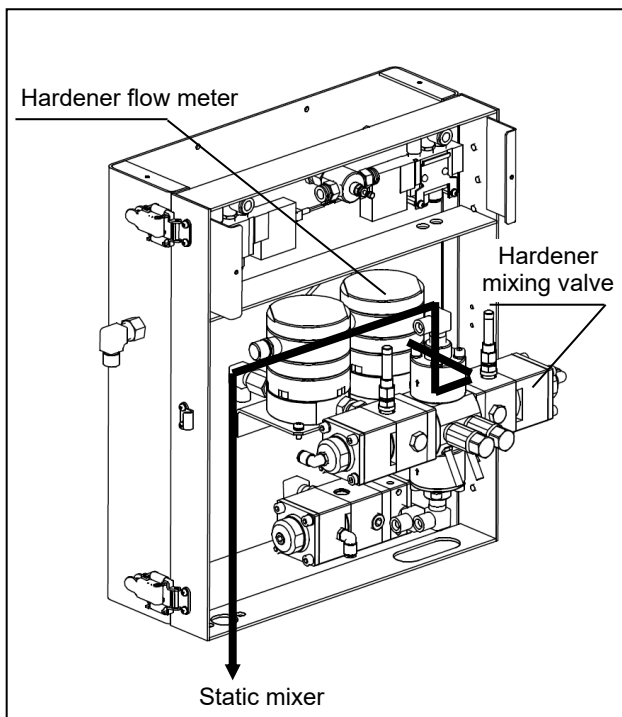
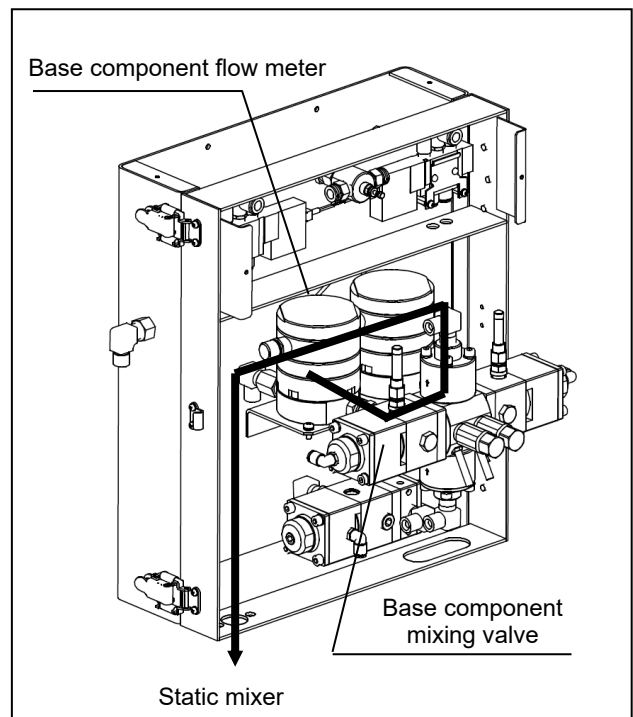

Figure 2.2.2
Figure 2.2.3
- ① When the READY switch is "ON" on the main screen, the mixture and color change controls are available. With the READY switch "OFF," the mixed paint is not sprayed even if the spray gun trigger is pulled.
- ② As the spray gun trigger is pulled, the ACW controller activates the hardener mixing solenoid valve to start feeding the hardener.
- ③ The hardener is fed through the flow meter to the mixing hose (see Figure 2.2.2).
- ④ The ACW controller controls the mixing valve according to the signals sent from the flow meter to obtain the calculated target flow rate and accurately meters the hardener fed into the mixing hose.
- ⑤ After feeding of the hardener is completed, the base component mixing valve is activated to feed the base component in the similar manner (see Figure 2.2.3).
- ⑥ Those steps are repeated to alternately feed the base component and hardener into the mixing hose.
- ⑦ The primary mixture prepared in the mixing hose is fed into the static mixer where it is thoroughly mixed and then sent into the spray gun.
- ⑧ When the spraying operation is stopped, the mixing valves under operation are closed. (At this time, both of the base material and hardener mixing valves are closed). When it is started again, the mixing valves are opened to start mixing.